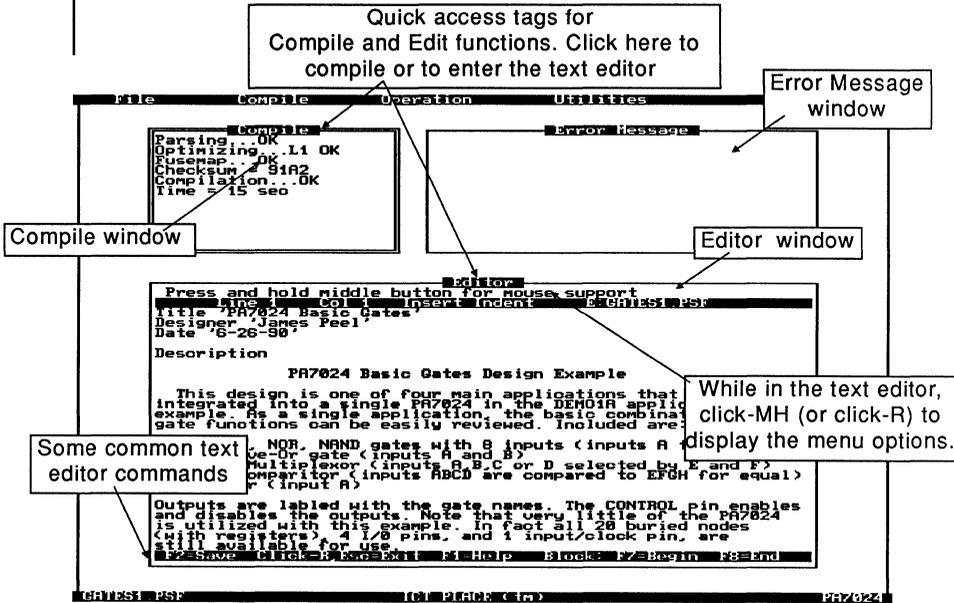

Figure 4-37, Compile Operation screen
There are three windows in the main screen of the Compile Operation (Figure 4-37). Each of these windows provides a specific function in regards to the compilation process of the PLACE Source File (PSF).
Optimization - Implements logic transformation (complex equations into sum-of-product form conversion) and reduction to the parsed PSF file, and outputs the results to a file with extension ".RED". The RED file is in the PSF format, hence it can be read into the Design Operation for analysis of the reduced equations. After optimization is completed, the reduction level implemented is displayed. For instance in Figure 4-37, the "L1" term in "Optimizing ...L1 OK" indicates that the reduction level L1
- **The default option for the reduction level selection is "Auto 1-5".** The "Auto" reduction levels refer to the automatic increments of the reduction levels. For instance, the "Auto 1-5" means that the optimization process starts with reduction level 1. If the design does not fit the device after the completion of level 1, then it proceeds to level 2. If the design still does not fit the device, it proceeds to level 3 and so on until a fit occurs. Once the design achieves a device fit, the reduction level will be displayed in the Compile window (Figure 4-37).